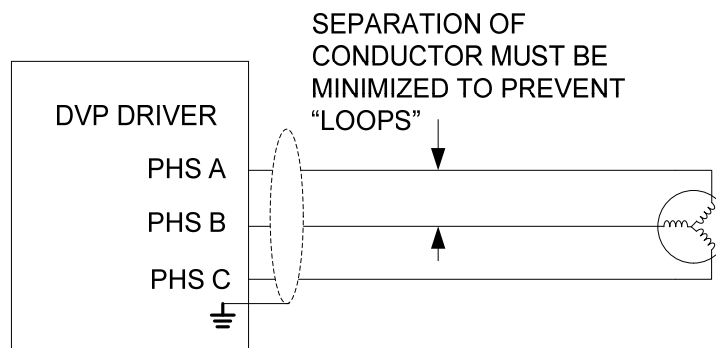

Figure 3-5. Preventing "Loops"
- If separate cables are necessary, then the distance between conductors must be minimal to reduce the previously mentioned loops, as shown in Figure 3-5.